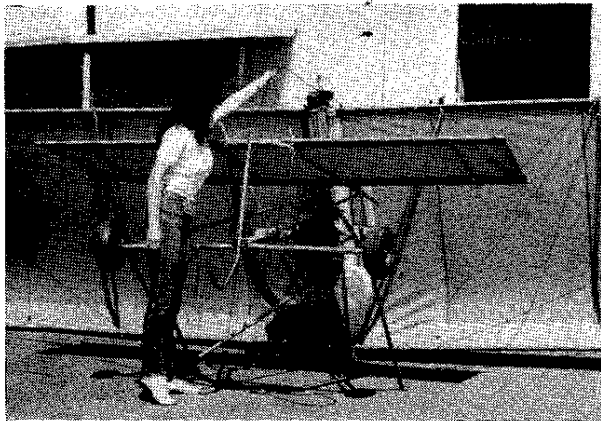

Figure 2.25
- 31.** Toss right and left upper tail wires over wing, each to their side of propeller shaft. **Figure 2.25**